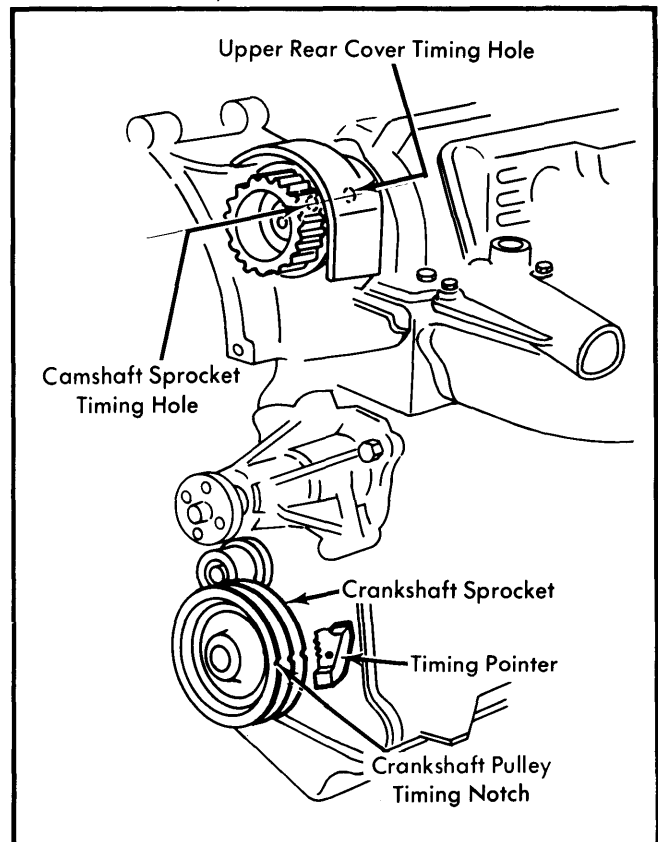

Fig. 5 Sprocket Timing Marks
2) Insert $\frac{1}{8}$ " drill rod through hole in rear side of upper timing belt cover and camshaft drive sprocket. See Fig. 5.